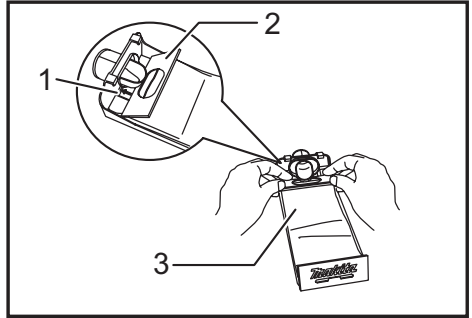

Fig.6
► **Fig.6:** 1. Groove 2. Front fixing cardboard 3. Front side of paper dust bag